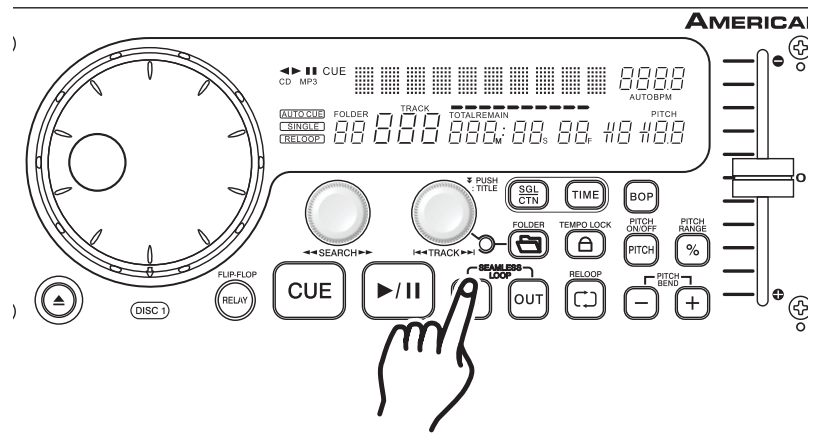

Figure 34
- 2) Press the **IN BUTTON (17)** (Figure 34) at the point you want your BOP to take place.